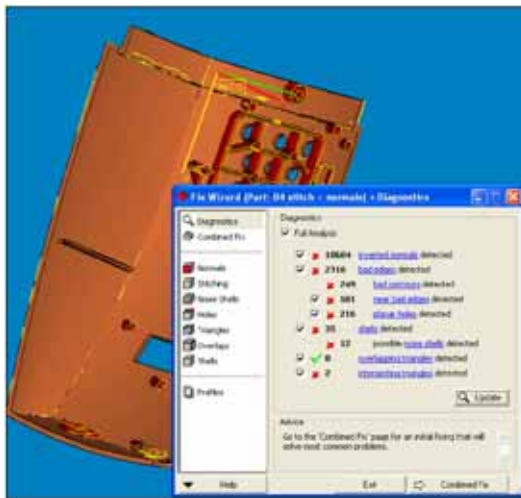

Figure 70: Model to fix – 04 stitch + normals.stl
- The model for this exercise is shown Figure 70.